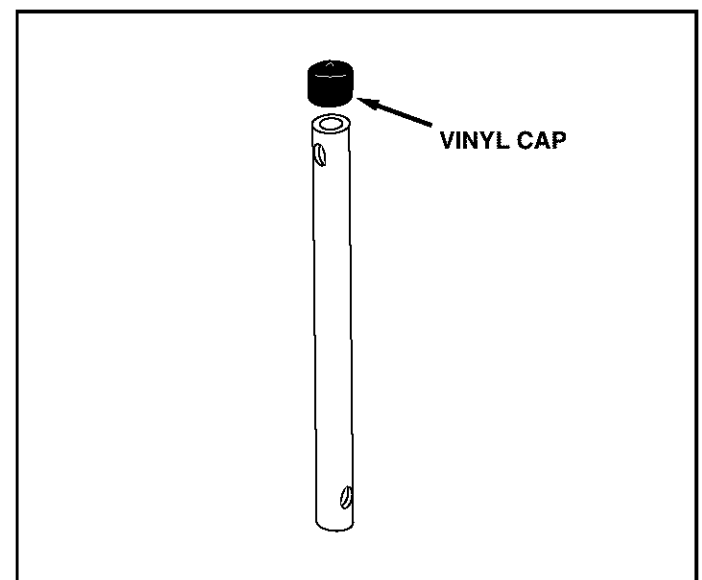

FIGURE 16
- Assemble a vinyl cap onto each bag arm tube as shown in figure 16.